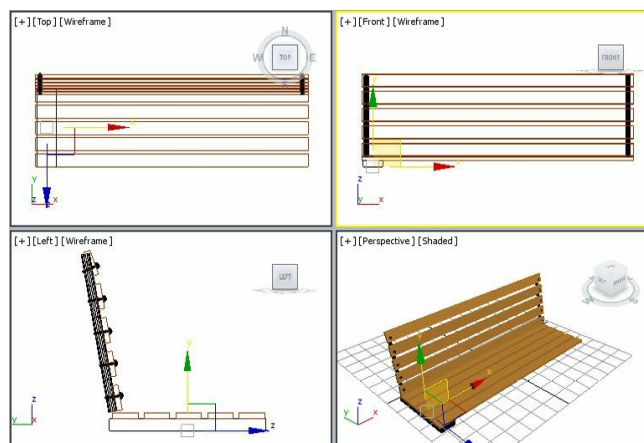

Figure 2-83 Alignment of *leg support001* with *horizontal seat support*
5. Choose the **Select and Move** tool and align *leg support001* to the extreme left and below *horizontal seat support* in all viewports, refer to Figure 2-83.